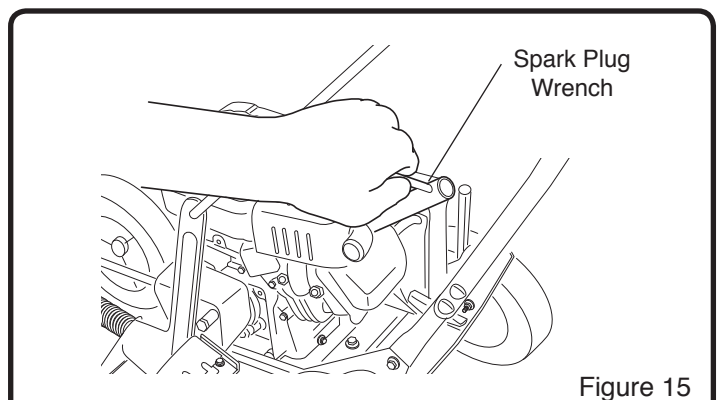

Figure 15
2. Remove spark plug wire from spark plug. Remove spark plug (See Figure 15)
6. Re-insert the spark plug and tighten using a spark plug wrench. (See Figure 15)